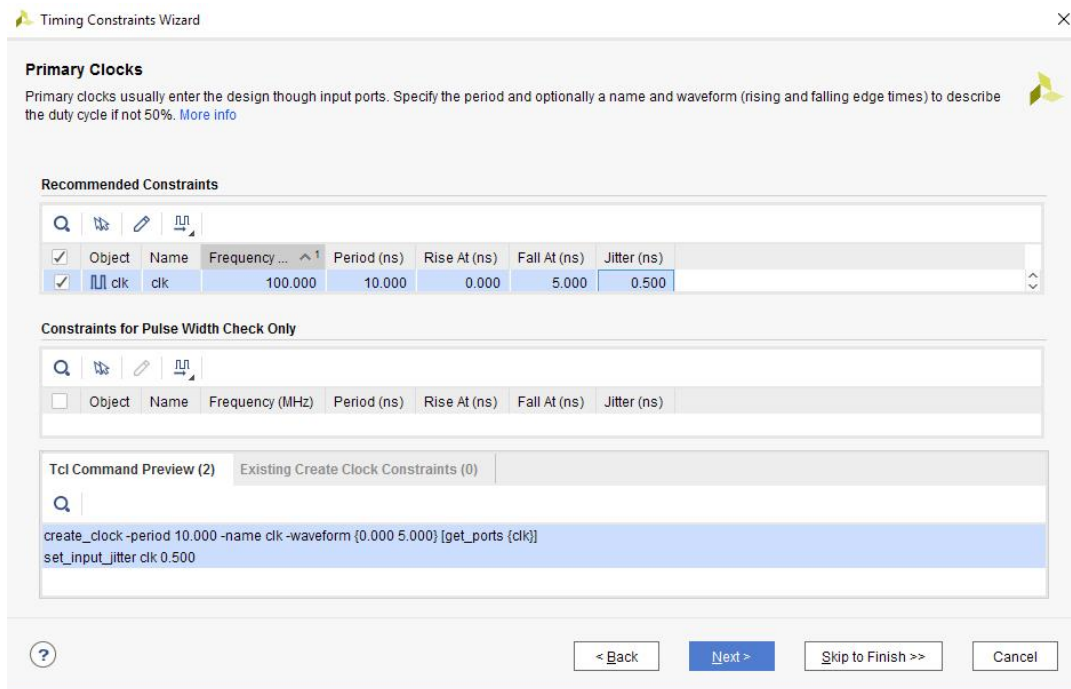

Figure 30
6. Check if everything is correct (Figure 30) and click **Next**